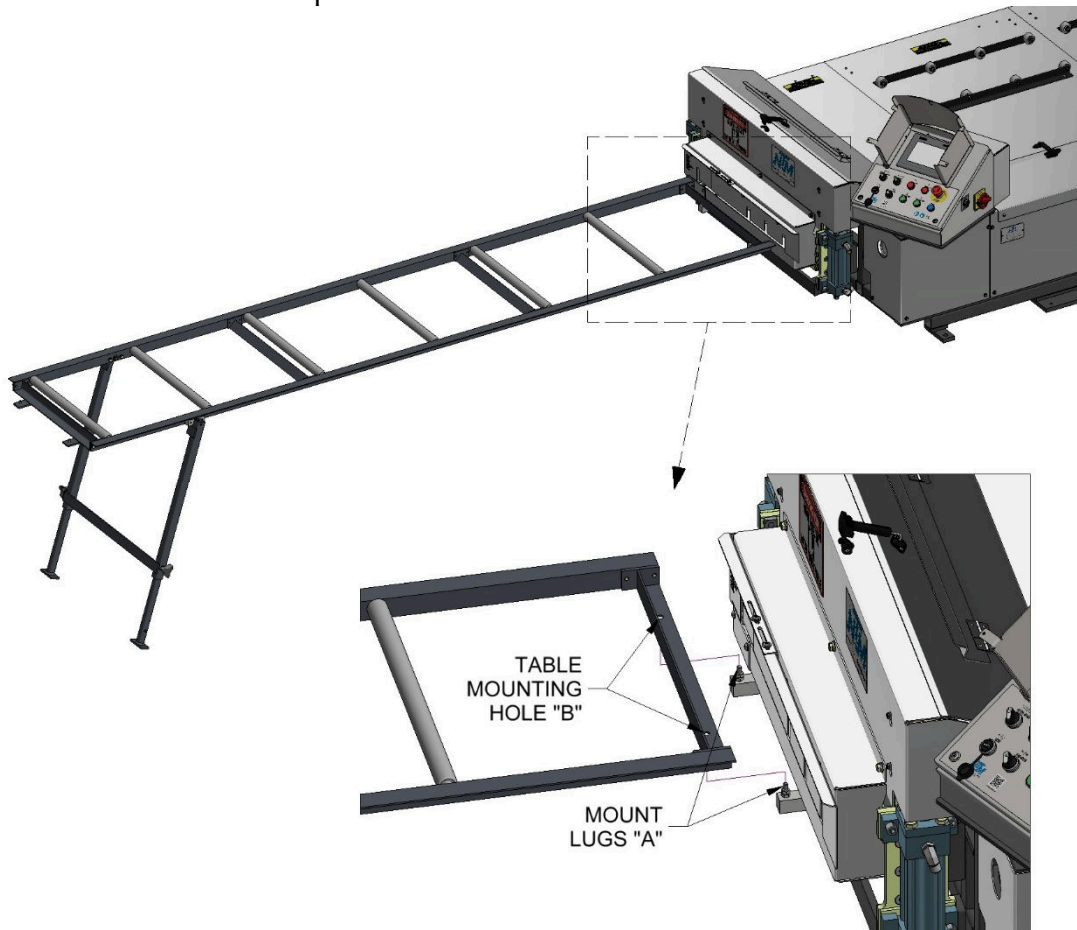
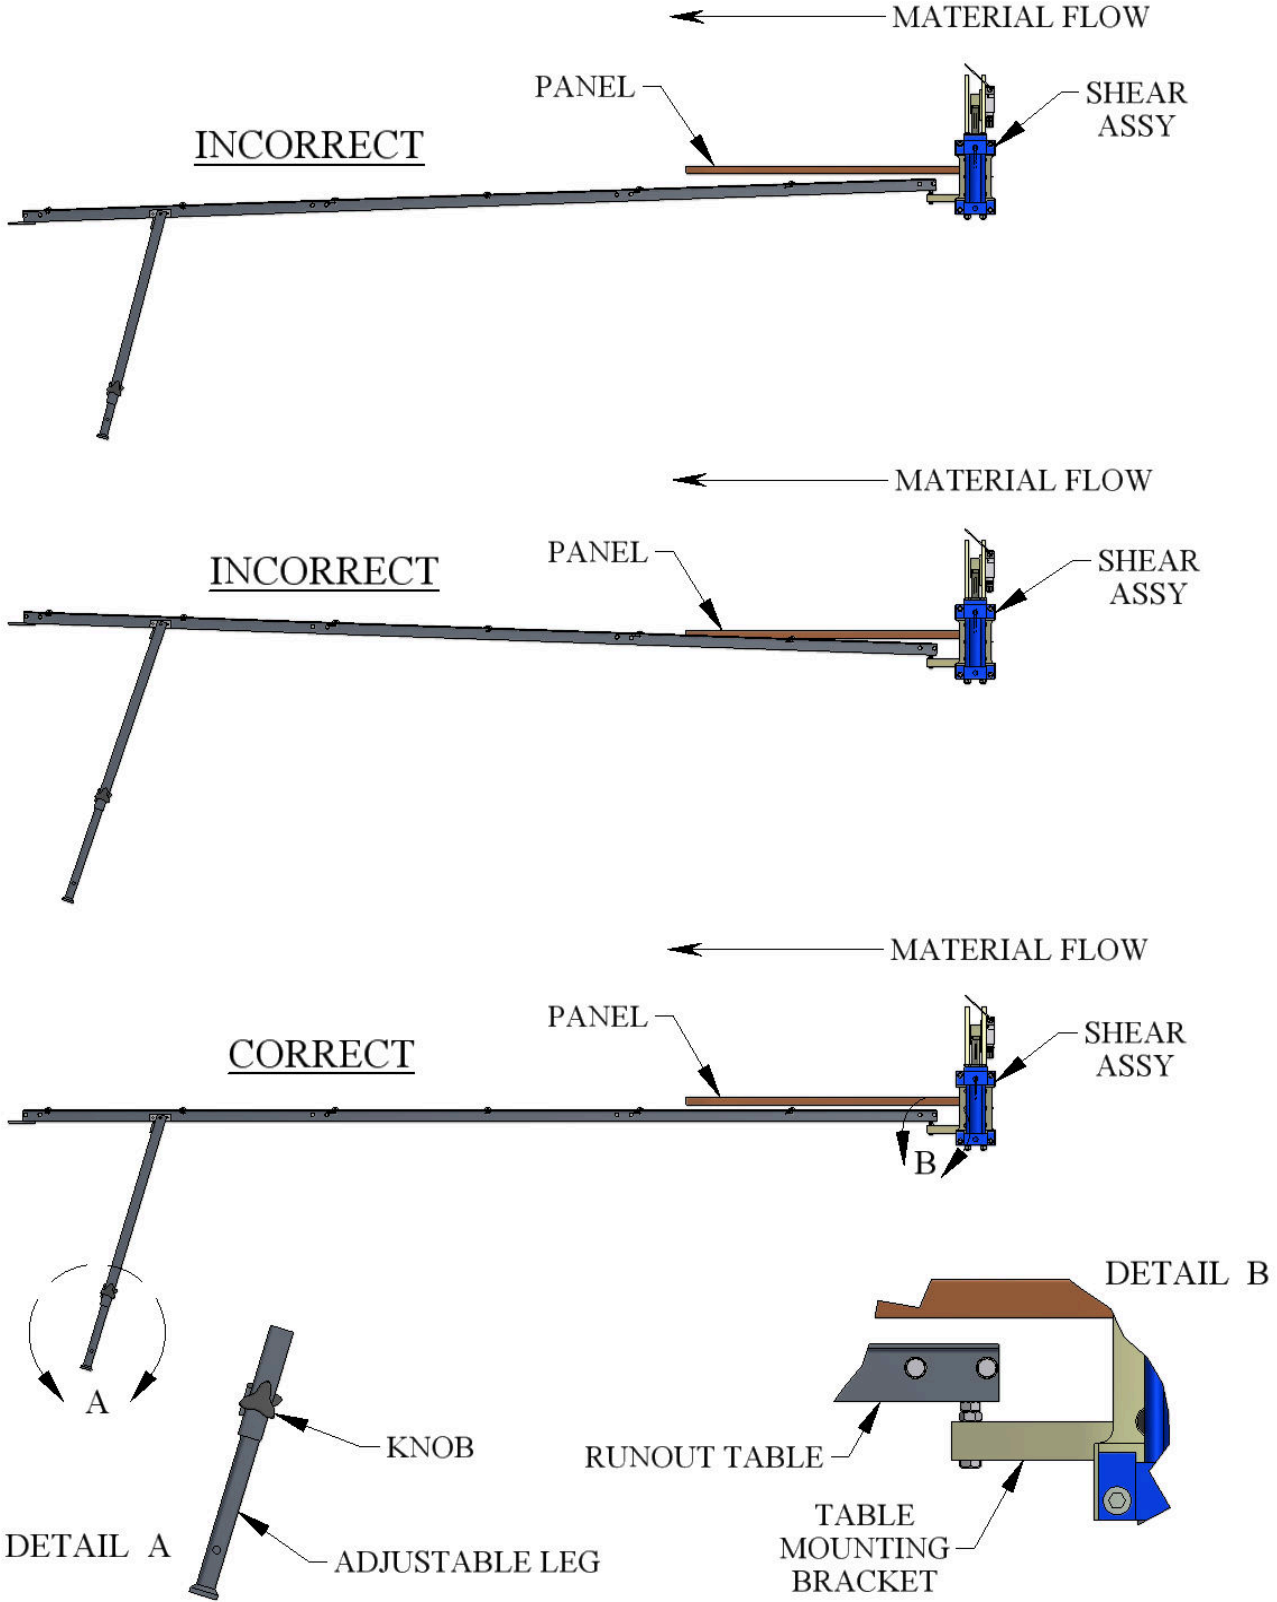

Figure 120: Run Out Table
Figure 121: Run Out Table Setup
(Figure 120 & Figure 121)
4. Loosen the 2 knob-handles on the leg assembly and allow the legs to fall free. Sight the height of the table on the left and right side adjusting it level to the machine using the knob-handles to lock the legs in place. See Figure 121 for correct and incorrect set up and details.